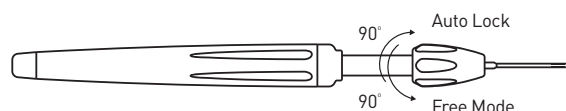

Figure 3 - Handle modes
4. Verify that both modes of handle operation are effective (Free Mode and Auto Lock). Switch between modes by rotating the top part of the handle by 90° (see Figure 3).